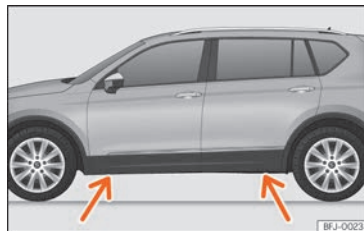

Fig. 37 Jack position points.
- Find the support point on the strut (sunken area) closest to the wheel to be changed » Fig. 37.